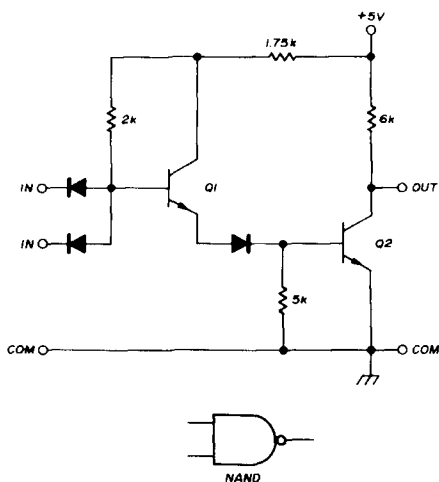
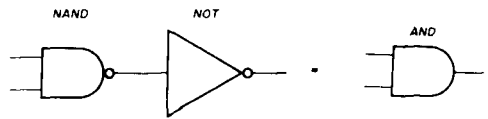
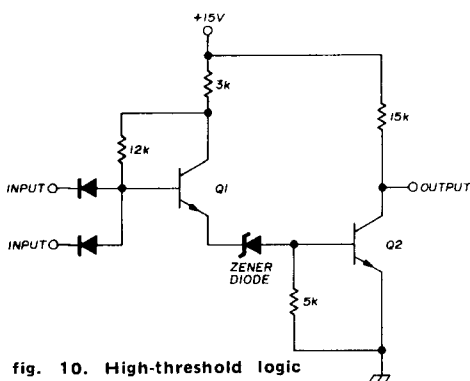

fig. 6. Example of current-sinking logic using 1/4 of an MC846P DTL gate.
fig. 7. Formation of an AND gate using a NAND gate and an inverter.
fig. 10. High-threshold logic (HTL) gate.
**Current-sinking logic.** Fig. 6 shows a DTL gate ( $\frac{1}{4}$  of  $\mu\text{L946}$  or MC846P). Note that both inputs are via diodes, which might at first look as though they are connected backward. Fear not, the diodes are shown correctly, because we must draw current out of the input when using this sort of logic. For this reason DTL is called
Unlike RTL, if a DTL gate has its inputs left open, the transistors in it are conducting, and the output is low or zero. Also, for positive logic, a simple DTL gate is called a NAND gate. When input 1 and input 2 are high (or open) the output is low. By following the gate of fig. 6 with an inverter (such as 1/6 of an MC836P) we create an AND gate, as shown in fig. 7.
DTL is HTL (high-threshold logic). This family is, strictly speaking, offered only by Motorola, but HNIL (high-noise immunity logic) by Amelco Teledyne is essentially the same, as is HLLDT $\mu$ L (high logic level diode-transistor micro-logic) by Fairchild. These families all have the standard multiple diode inputs of DTL as shown in fig. 10.
Comparing fig. 10 with fig. 6, we see the really important difference between these two DTL forms: the diode coupling Q1 and Q2 in fig. 6 is replaced by a zener in fig. 10. This causes the HTL to have a much larger noise immunity. For this reason, HTL is often used in systems that contain electrically noisy components like relays and brush-type motors.